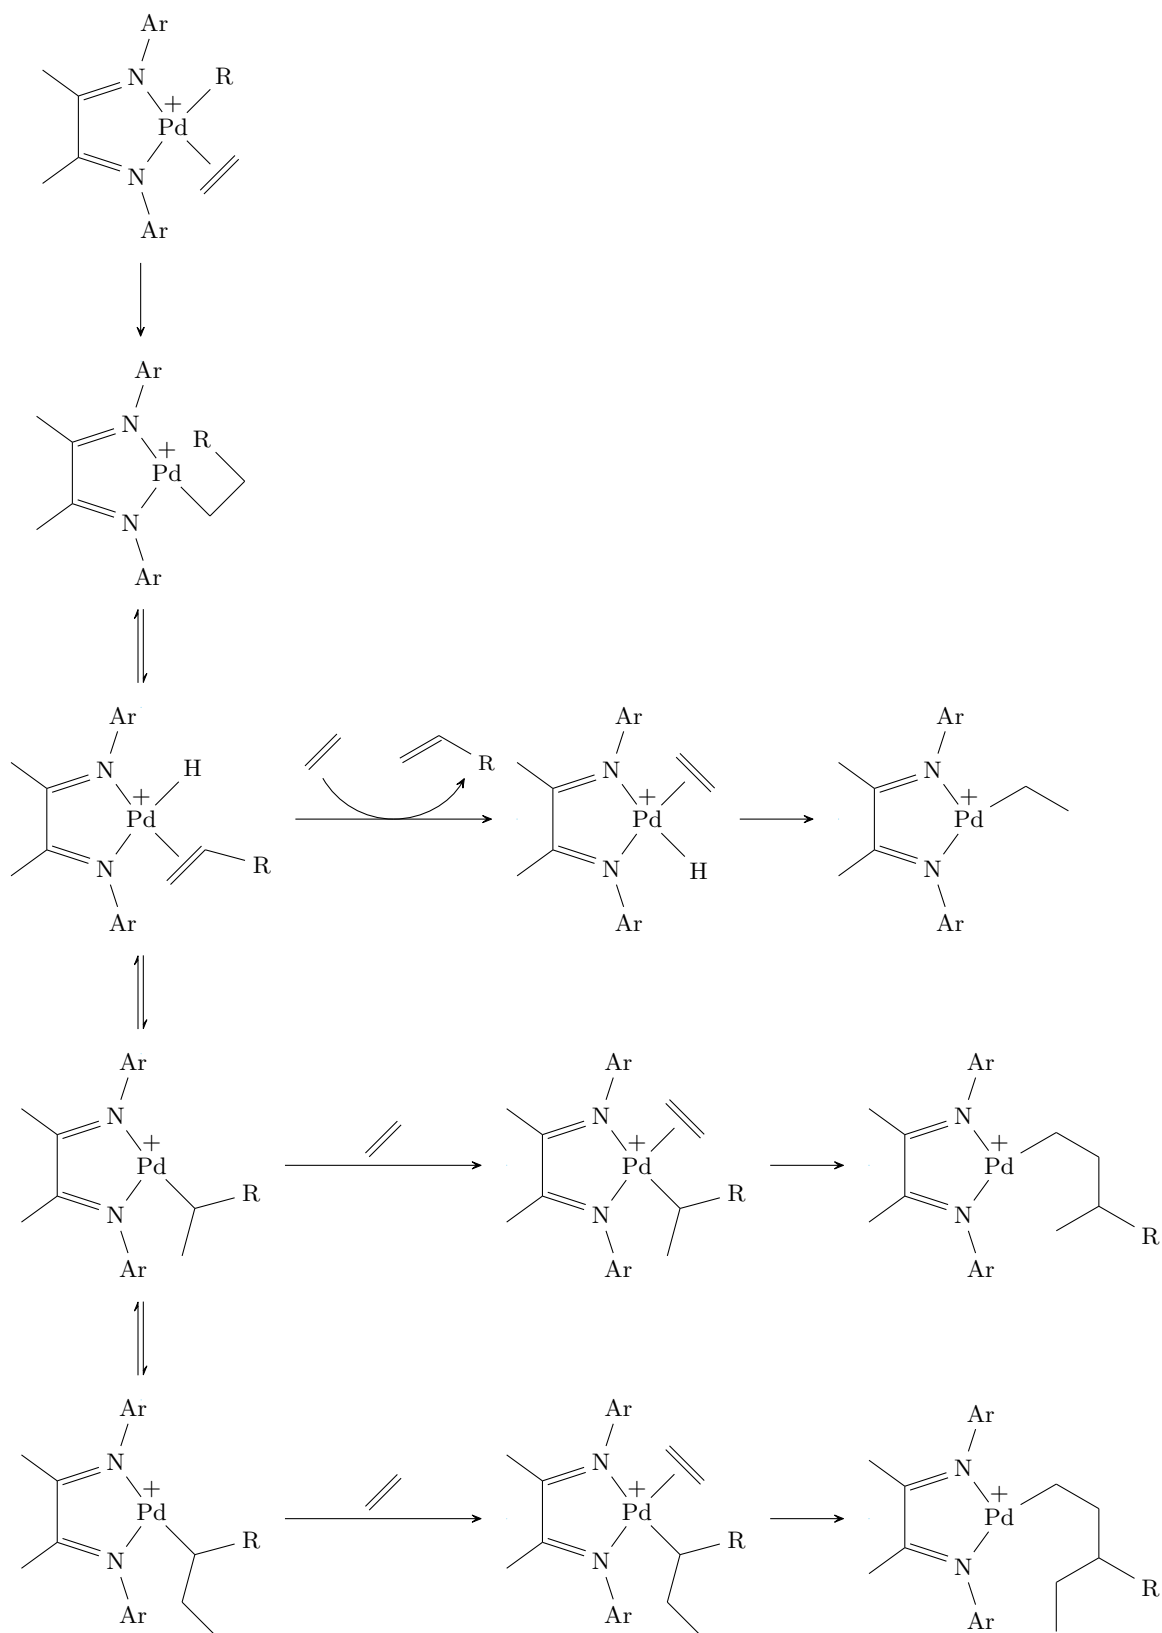

Figure 5.7: Polymerization with Brookhart catalysts.
- Brookhart type nickel- and palladium-based polymerization catalysts are introduced in Section 11.3.3 of the text. These catalysts differ from metallocene catalysts in that (1) the resting state is the (diimine)MR(ethylene)+ adduct 1, (2) chain walking is much faster than chain growth, (3) ethylene insertion into secondary alkyl metal species is fast, and (4) a hyper branched polyethylene is produced (ca. 100 branches at 1000 °C).
- A mechanism for polymerization showing how branches are formed (see Figure 5.7).
- It's Zr(IV) as a cation.
- Palladium(II) is  $d^8$  and soft, while zirconium(IV) is  $d^0$  and hard. While both are poor backbonders, the soft character of the former leads to stronger metal olefin coordination. This enables  $\beta$ -H elimination of (diimine) $\text{PdCH}_2\text{CH}_2\text{R}^+$  to form (diimine) $\text{PdHCH}_2=\text{CHR}^+$  to compete with trapping by ethylene to form the resting state, and thus enables chain walking to compete with growth.